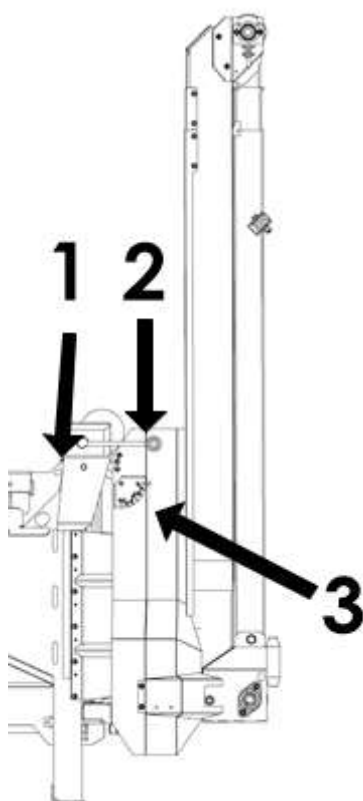
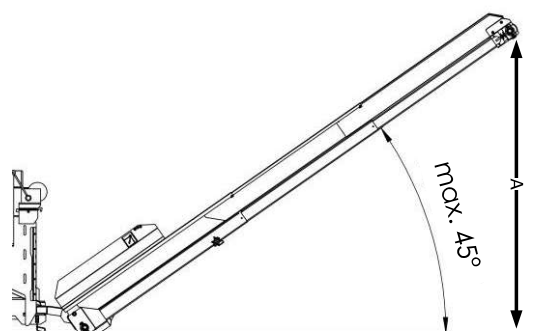

Figure 11
Figure 12
- Unblock the interlock (1) to release the belt (Figure 11);
- rotate the lever (2) of the manual winch to lower the conveyor belt;
- make sure the angle of the conveyor belt does not exceed 45°(Figure 12), otherwise the conveyor belt could be irreparably damaged during splitting;
- see the table (Figure 12) to determine the correct angle of the conveyor belt;
- before operation check the angle of the conveyor belt using the dedicated scale (3) on the conveyor belt (Figure 11).